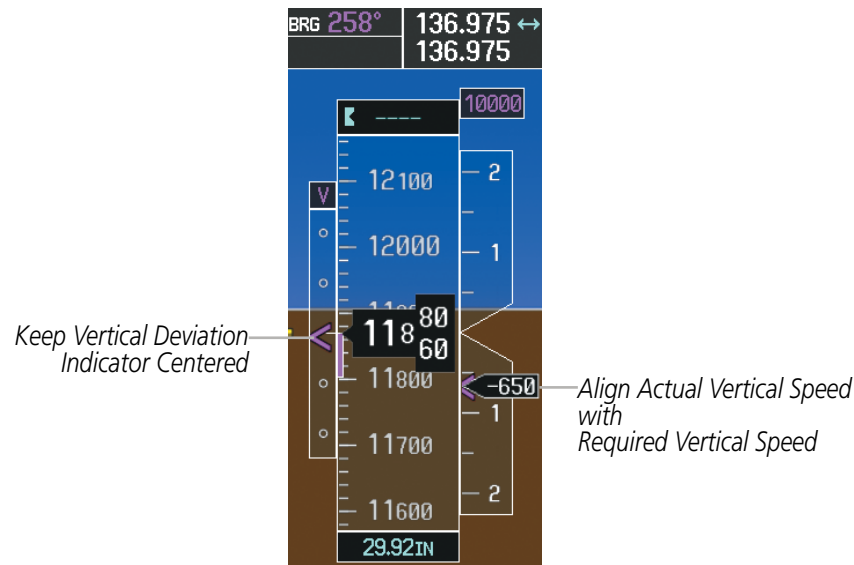

Figure 5-129 VDI & RVSI Showing Correctly Established Descent
- 16) Upon reaching TOD, a descent vertical speed is established which places the VSI pointer in line with the RVSI as shown in Figure 5-129.